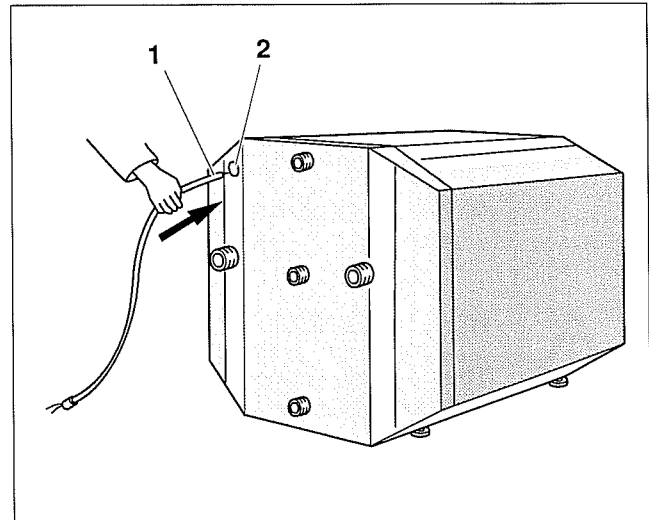

Fig. 11 Installation of temperature sensor
- Guide the sensor wiring (Fig. 11, **Item. 1**) into the raceway from the rear of the tank (Fig. 11, **Item. 2**). Make sure to lengthen the wiring for the LT300/2 model by splicing in 14 gauge wire.